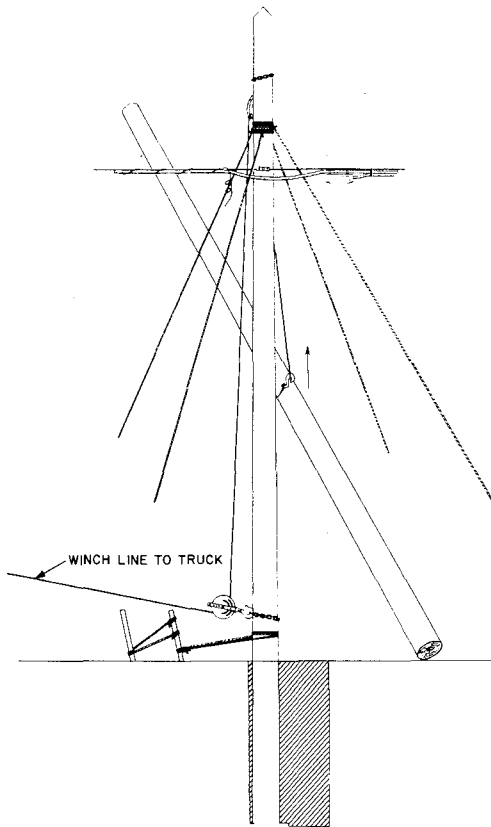

Fig. 11—Using Gin Pole
- (6) Proceed to rig the old pole as a gin pole and set the new pole. See Fig. 11.
- (7) To remove the old pole, transfer the snatch blocks and temporary head guys to the new pole and use it as a gin pole.